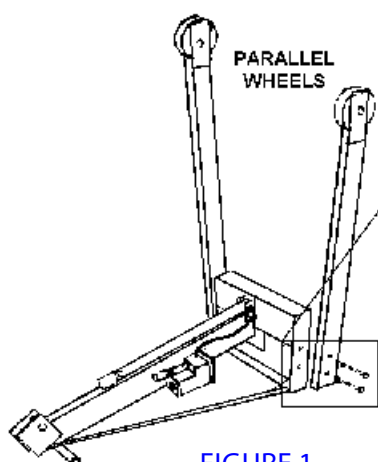

FIGURE 1
Step #1: Place tower on floor, push-handle down. See figure 1.
Step #2: Attach each leg (item 4) using two 3/8-16x3" grade 5 bolts (item 2), flat washers (item 3), and lock nuts (item 13) as shown. Wheels should be parallel when assembled properly. See figures 1 & 2.